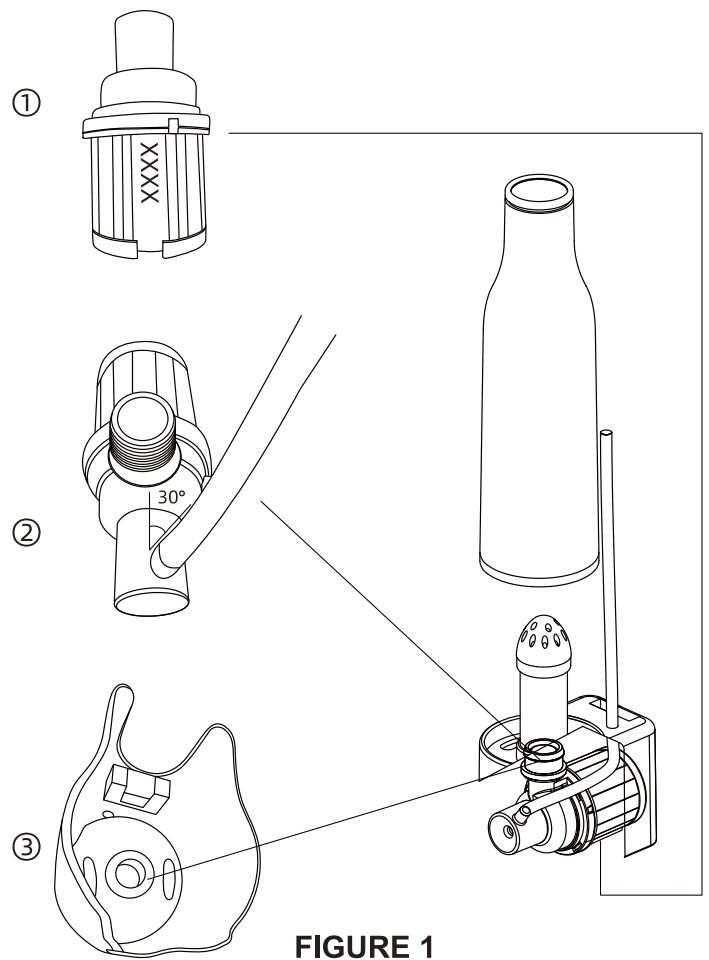

FIGURE 1
Step1--->(FIGURE 1)
① The production batch in the bottom is in the right position.
② A 30° corner between the adjust air intake nozzle and the pump outlet nozzle.
③ Press the water outlet into the silicon ring with your full strength.